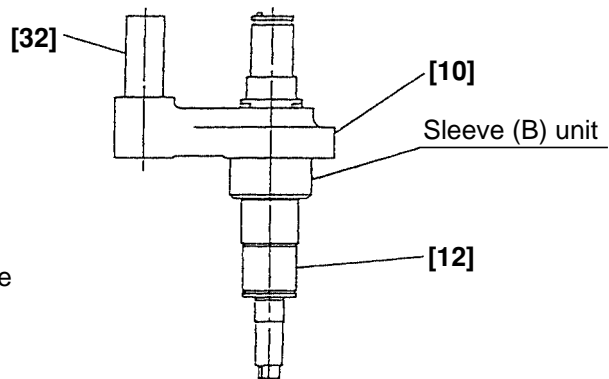

Fig. 27
(8) Installation of the cam shaft unit (Fig. 27)
Mount sleeve (B) unit to the Cam Shaft [12] (Fig. 27).